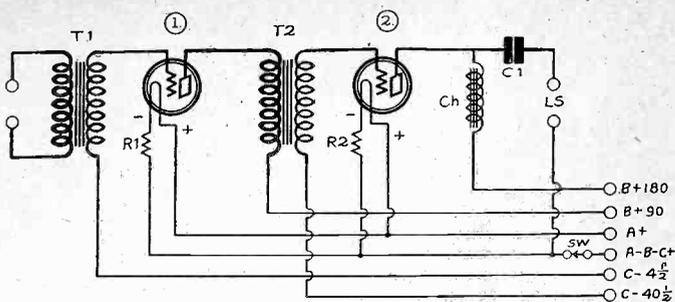

FIG. 10
The most common in battery receivers is the two-stage transformer coupled, one form of which is shown in Fig. 10. This circuit comprises two audio transformers, T1 and T2, two amplifier tubes, (1), and (2), and output filter ChC1. In addition to the main elements it contains two Amperites (filament ballast resistors), R1 and R2, and a filament switch Sw. Filament, plate and grid batteries are supposed to be used with it.
For broadcast reception in a home a better choice of tubes is a 201A for the first tube and a 171A for the second. An output filter is necessary with this combination of tubes, for the 171A requires a high plate current. The plate and grid voltage values given in Fig 10 assume that this combination of tubes is used. The plate voltage on the first tube is 90 volts and that on the second is 180 volts. The bias on the grid of the first tube is 4.5 volts and that on the second is 40.5 volts. These are standard values and easily obtainable.
The final tube in this amplifier is supposed to be a 171A, and for that reason the output filter ChC4 is employed. The specifications for this filter are the same as those given for the transformer coupled receiver in Fig. 10.